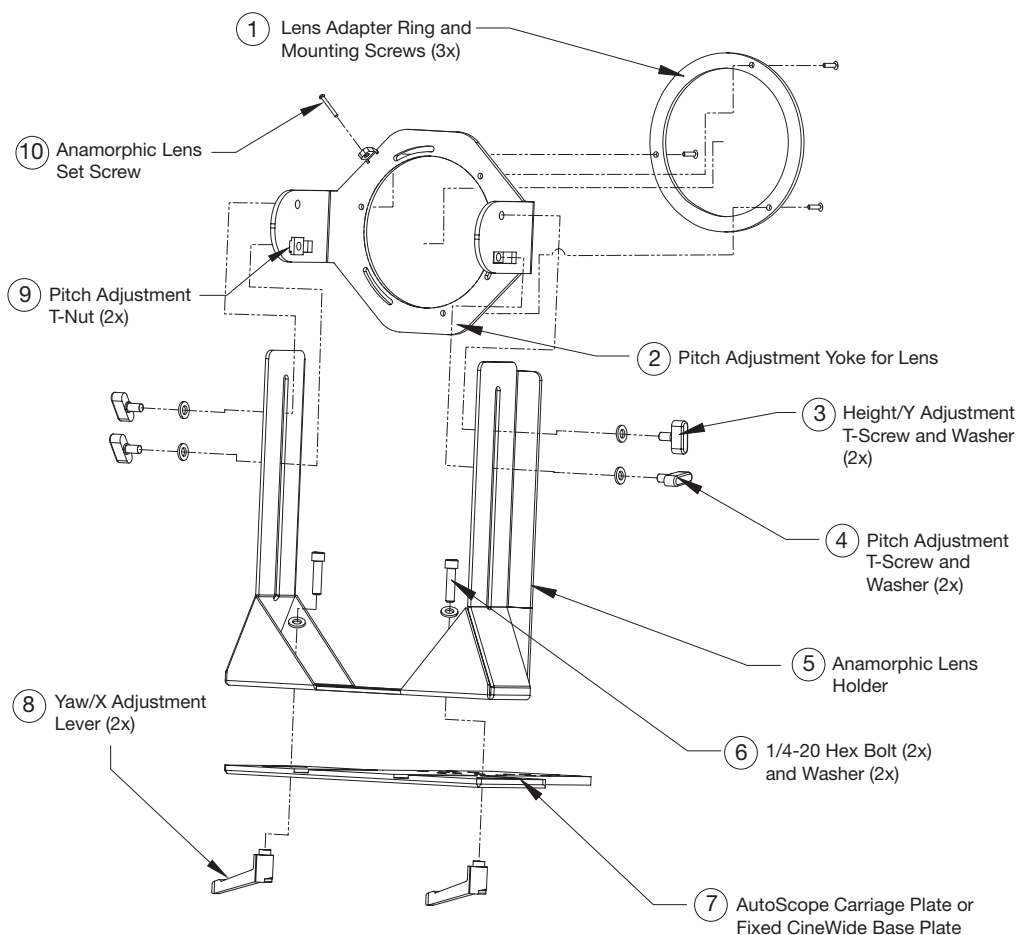

Figure 3-19. VX-33d Anamorphic Lens Mounting Assembly - Exploded View
The VX-33d Anamorphic lens mount kit consists of everything shown in Figure 3-19. Some components shipped with your projector may differ slightly from what is shown in these instructions. If any items are missing or damaged, please contact your Runco dealer or Runco Customer Service at (800) 23-RUNCO.